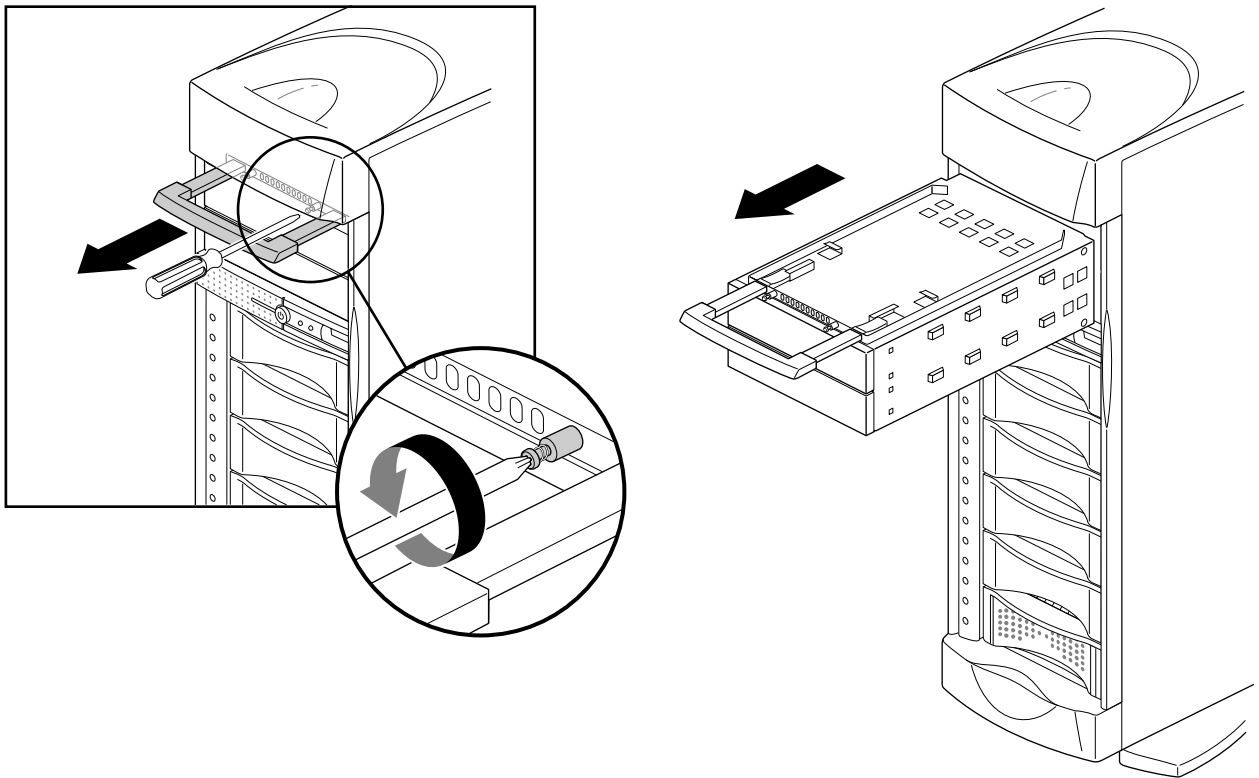

Figure 2-10 Removing the 5.25-Inch Peripheral Carrier
2. Remove the carrier, as shown in Figure 2-10.